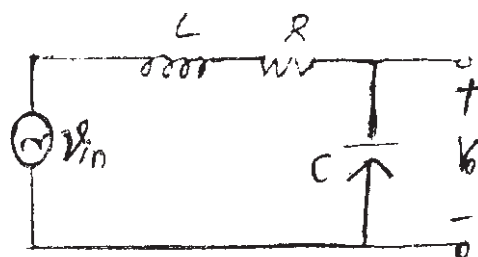

Fig.2
b) For the series R-L-C circuit shown in fig.2 calculate the sensitivity of the resonant frequency ( $\omega_0$ ), the quality factor ( $Q_0$ ) with respect to R, L and C. Comment on the results obtained. [12]